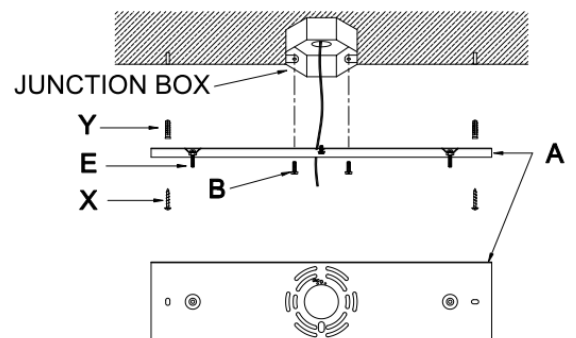

Fig. 3
### CONNECTING THE WIRE (Fig. 3)
11. Connect the electrical wire as shown in Fig.3. Making sure that all wire connectors are secured. If your outlet box has a ground wire (green or bare copper), connect fixtures ground wire to it. Otherwise, connect fixture ground wire directly to the mounting plate using green screw provided.